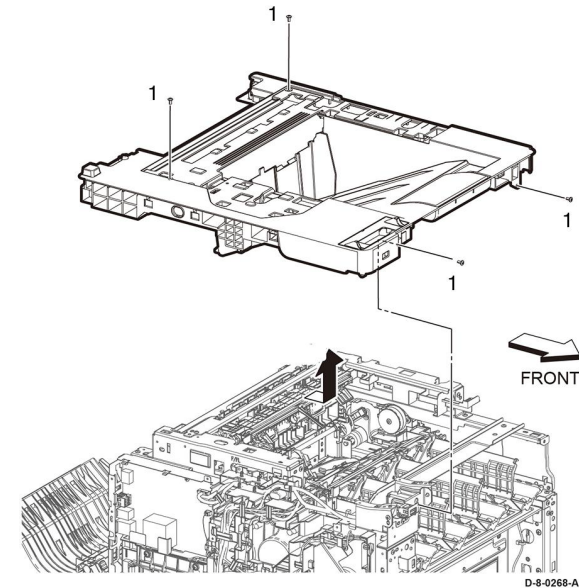

Figure 1 Top cover assembly removal (C605_Tall)
3. Remove four screws (1), then remove the top cover, Figure 1.